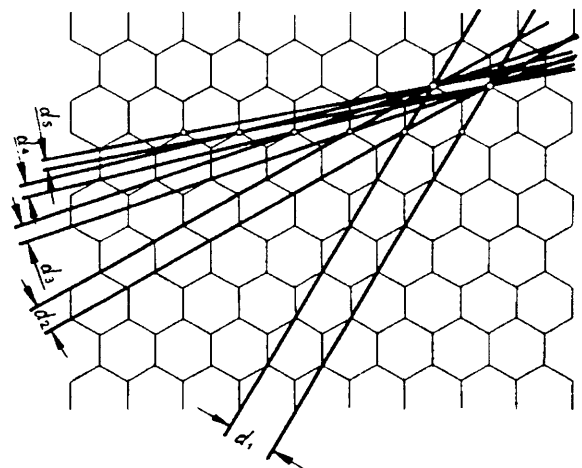

Fig. 6: Interplanar spacing in graphite
- The intensity of higher order interference rings is much lower than that of first order rings. Thus, for example, the second order ring of d_1 is difficult to identify and the expected fourth order ring of d_1 simply cannot be seen. The third order ring of d_1 is easy to see because graphite always has two lattice planes together, spaced apart by a distance of $d_1/3$. (Fig. 6)